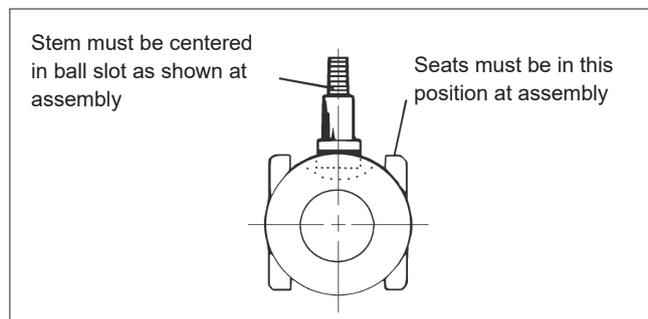
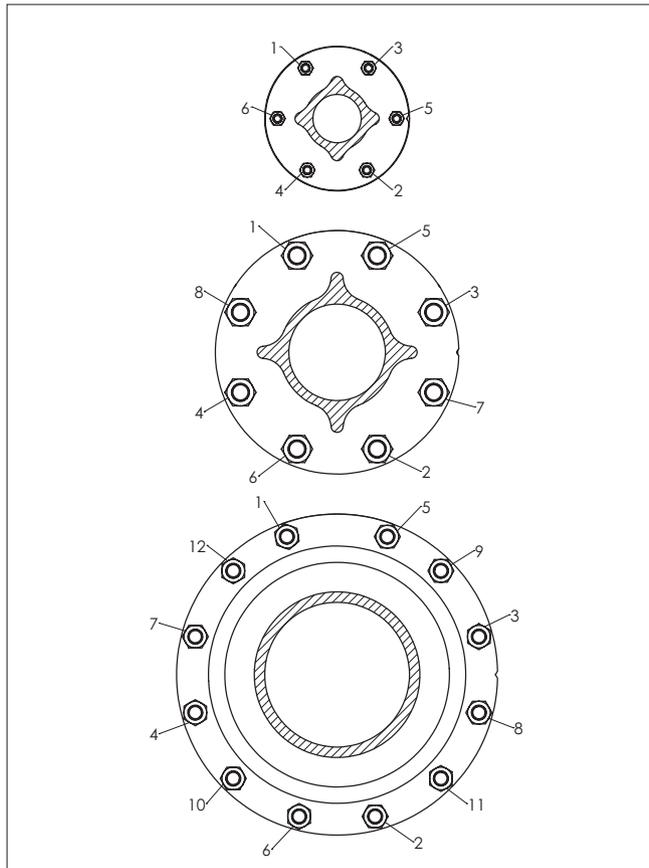

Figure 6. Proper Seat and Ball Orientation
Figure 10. Bolt Tightening Sequence
4. Carefully clean and polish the ball (3) sealing surface: It should be free of all scratches and grooves.
6. Place the body and body cap carefully on the pipeline flange, on a soft surface, taking care not to damage the raised face sealing surface. With the body cap side facing up, slide one valve seat (5) sideways into the body (1) to below the stem bore, and tilt it into place so that the proper surface (see **Figure 6**) will be adjacent to the ball (3), being careful not to cut or scratch the seat.
12. Insert internal grounding spring (71) into hole at the bottom of the stem (4). Insert the ball (3) rotating it onto the stem (4) in the closed position. If necessary, turn the stem blade to align with the ball slot. Make certain that the stem blade is in the middle of the ball slot; i.e. equal distance from the ends of the slot. Rotate the ball if necessary (see **Figure 6**).
13. Gently place the body seal (6) into the machined recess of the body (1).
14. Place the second seat (5) on top of the ball (3) with the proper surface (see **Figure 6**) adjacent to the ball.
15. Place the body cap (2) over body studs (32) being careful to properly orient body cap and body as originally assembled by matching orientation marks made prior to disassembly. Take care not to damage body seal (6) or seat (5) during this operation.
16. Lubricate the threads and face of nuts (33) with NeverSeez® or equivalent. Install nuts (33) on body studs (32) and tighten sequentially as shown in the diagram (**Figure 10**), to the recommended torques as shown in the torque chart (**Table 2**).
- Carefully clean and polish the ball (3) sealing surface: It should be free of all scratches and grooves.
- With the body cap side facing up, slide one valve seat (5) sideways into the body (1) to below the stem bore, and tilt it into place so that the proper surface (see **Figure 6**) will be adjacent to the ball (3), being careful not to cut or scratch the seat.
- Place the stud nut (30) on each stud (29) and tighten nuts a few turns alternately so that the compression plate (20) remains parallel with the body bonnet. Do not fully torque down stud nuts (30) at this time.
- Insert the *Emission-Pak* subassembly into the body, being careful not to damage the *Emission-Pak* housing seals. A lubricant, compatible with the flow media, **MUST** be applied to the stud (102) threads and the face of the nut (111).
- Once metal to metal contact has been achieved, tighten the nuts (111) to the torque values in (**Table 5**). Apply the torque evenly in a crisscross pattern.
- Place the valve in a vertical position, insert end up, on a clean soft surface such as a folded rag or a piece of cardboard. If the valve has grounded option, insert the bottom grounding spring (71) into the hole at the bottom of the stem (4). Insert the ball (3) rotating it onto the stem (4) in the closed position. If necessary, turn the stem blade to align with the ball slot. Make certain that the stem blade is in the middle of the ball slot; i.e. equal distance from the ends of the slot. Rotate the ball if necessary (see **Figure 6**).
- Place the body cap (2) over body studs (32) being careful to properly orient body cap and body as originally assembled by matching orientation marks made prior to disassembly. Take care not to damage body seal (6) or seat (5) during this operation.
- Lubricate the threads and face of nuts (33) with NeverSeez® or equivalent. Install nuts (33) on body studs (32) and tighten sequentially as shown in the diagram (**Figure 10**), to the recommended torques as shown in the torque chart (**Table 2**).